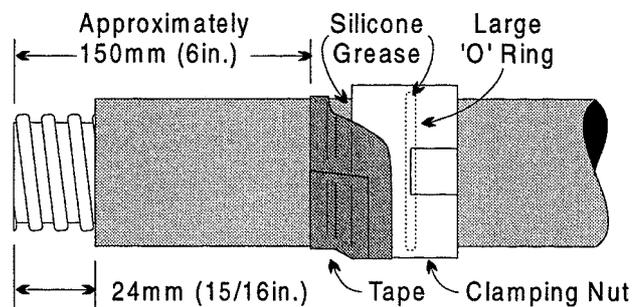
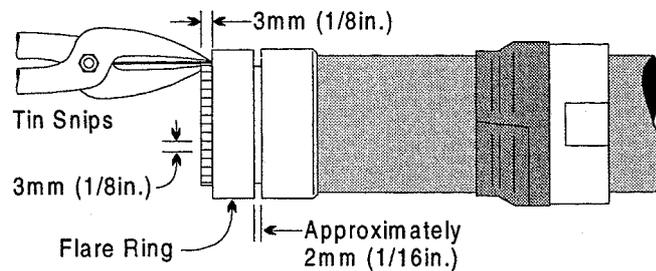
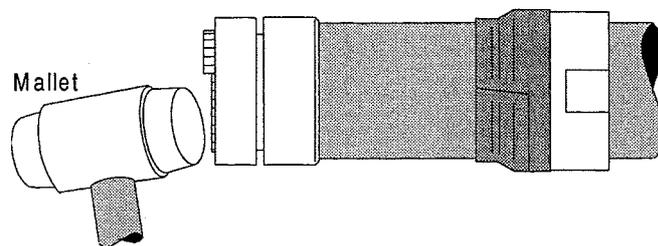

Figure 3.27. Cut Jacket
Figure 3.30. Cut Tabs
Figure 3.31. Flare End
(Figure 3.27 to Figure 3.31 are reproduced by permission of Andrew Antennas).
- a. Ensure that the end of the waveguide is straight for at least 250mm (10in). The ends of the EW85 must be cut squarely. Wrap a straight edged piece of paper around the waveguide to ensure squareness, tilt waveguide downwards to prevent copper swarf entering and then remove a 24mm (15/16in) length of the polyethylene jacket. Clean the external copper with Comothene (or Ultraclean) solvent and the interior with a bottlebrush, (see Figure 3.27).
- b. Apply a thin film of silicone grease (MS4 or similar) to the large 'O' ring and insert in the internal groove of the clamping nut; apply a thin film of grease to smooth internal surface of the clamping nut and slip the nut over the end of the waveguide as shown in Figure 3.27. Wrap several turns of tape around the clamping nut and jacket to prevent foreign matter from entering.
- e. Fit the recessed side of the flare ring over the gasket, with alignment holes of the flare ring and compression ring corresponding. Push the flare ring firmly against the compression ring (see Figure 3.30).
- f. With tin-snips, cut the bared end of the waveguide into tabs 1/8in wide and 1/8in deep – as close to the flange as possible, (see Figure 3.30) Flatten the tabs against the flare ring with a mallet using minimum force. Heavy blows will reduce the thickness of the copper, (see Figure 3.31). Trim off any tab protruding beyond the periphery of the flare ring; clean the tabs with solvent to remove any silicone grease.